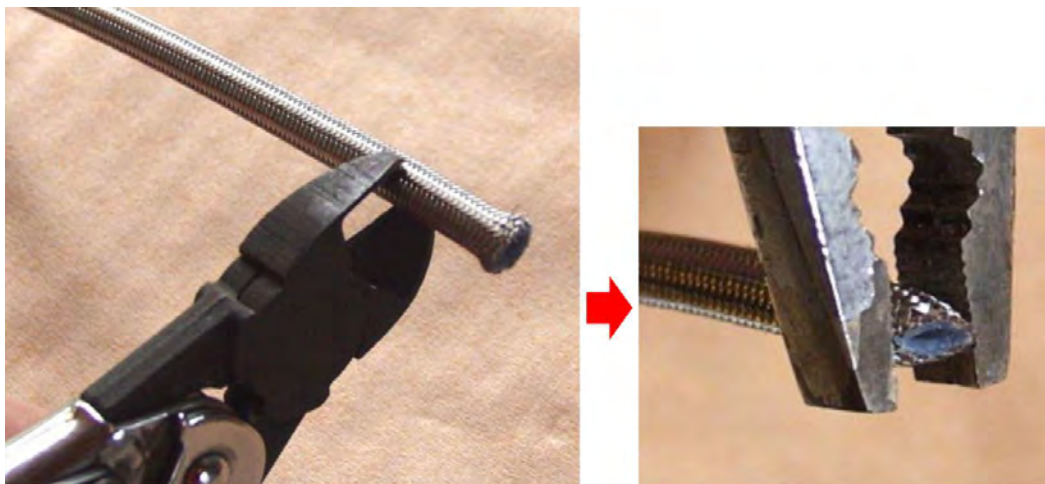

FIGURE 14-15
2. Clean any debris from cut end and gently reshape back to circular section with a pair of pliers (see Figure 14-15).